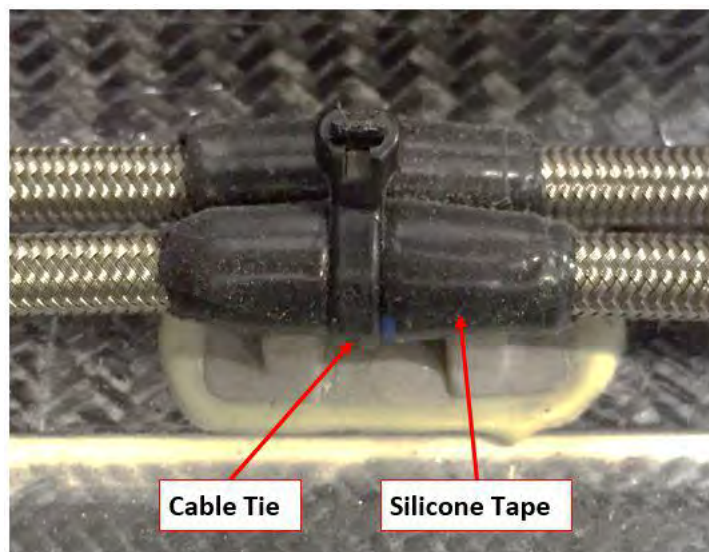

FIGURE 14-13
14. Route the brake line to the parking brake valve. Use the above method to wrap the brake line with silicone tape and attach with a cable tie at each mounting point on the structure. Figure 14-13 shows a typical mount.